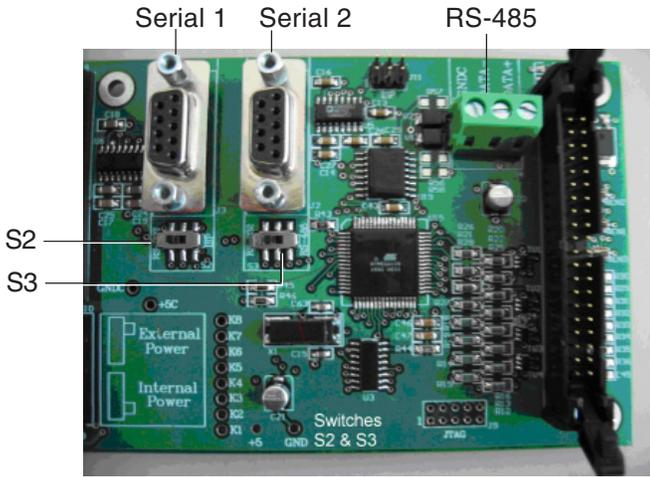

Figure 5: Switches S2 and S3
- Switches S2 and S3 provide for selection of the Serial communication and programming ports (see Figure 5).